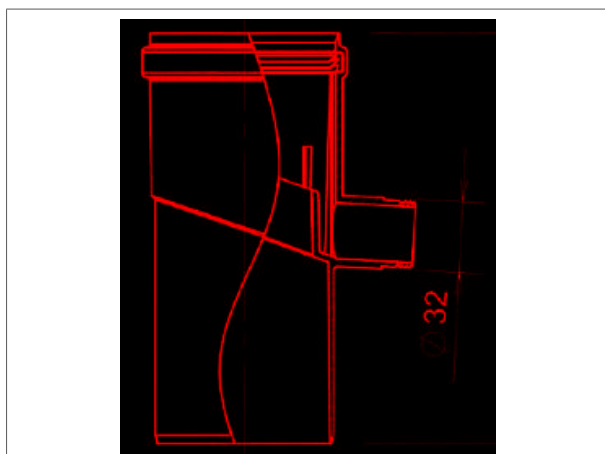

Figure 22 - Condensate drain
- Add a condensate drain (figure 22).